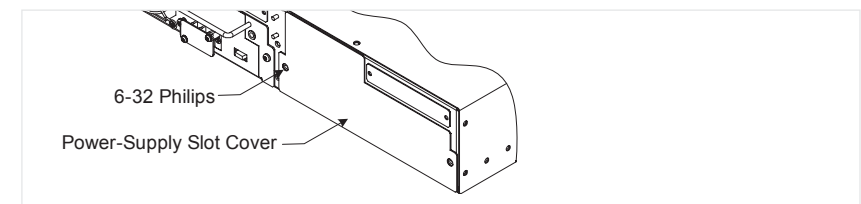

Figure 9: Chassis Power-Supply Slot Cover
3. Remove and keep the two (2) 6-32 philips head screws holding the power-supply slot cover. See Figure 9.